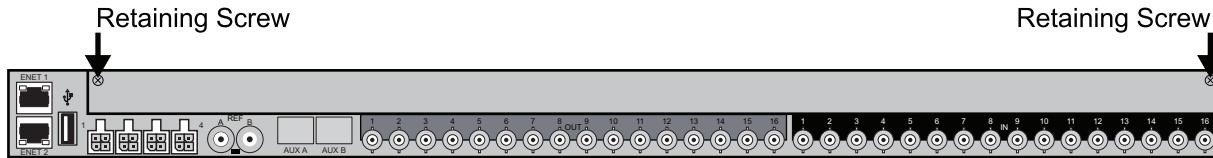

Figure 2 Ultrix Rear Panel — Retaining Screw Locations on the Blank Plate
2. Use a #1 Phillips screwdriver to disengage the captive retaining screws on either end of the blank plate. Refer to Figure 2 for screw locations.